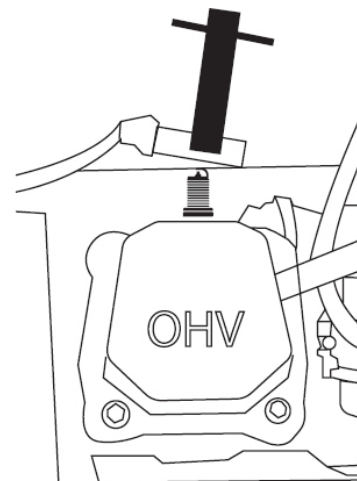

Figure 17: Retirer la bougie d'allumage
6. Using the spark plug socket wrench provided, remove the spark plug from the cylinder head (see Figure 17).